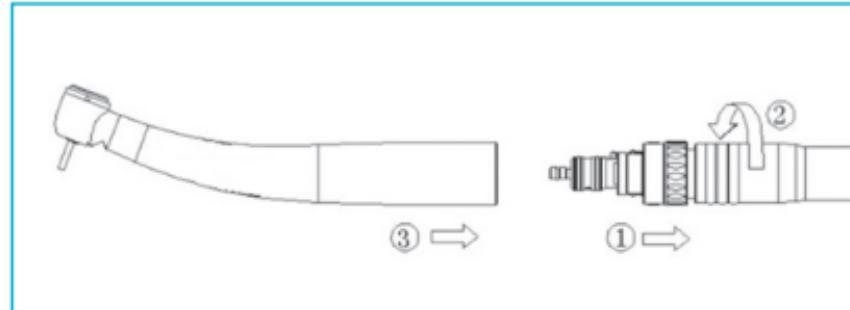

Fig. 6-11
- Screw the LED couplings onto the turbine hose (Fig.6-11①).
- Tighten the screw cap of the turbine hose hang-tightly (Fig.6-11②).
- Assemble the medical device accurately on the LED coupling until the coupling audibly locks in the medical device (Fig.6-11③).